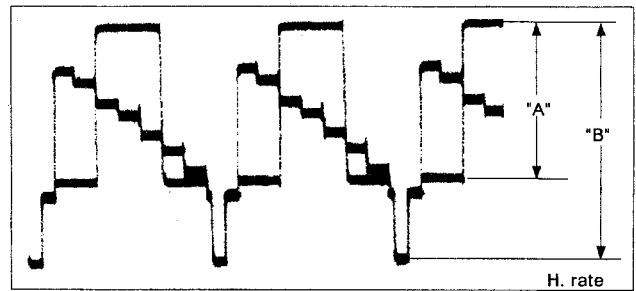

Fig. 3-1-9 EE Y level
- 2) Adjust R303 for "A" level is 0.71 Vp-p, as in Fig. 3-1-9.
- 3) Connect an oscilloscope to TP25 and adjust R9 for "B" level is 400 mVp-p, as in Fig. 3-1-9.